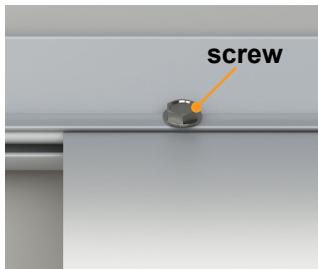

Fig.2
4. Remove the screws that hold the fabric in place on the awning rail (**Fig.2**).